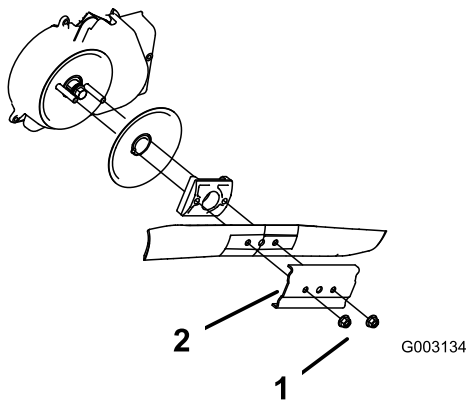

Figure 34
3. Remove the 2 blade nuts and the stiffener (Figure 34).
1. Blade nuts (2)
4. Remove the blade (Figure 34).
5. Install the new blade (Figure 34).